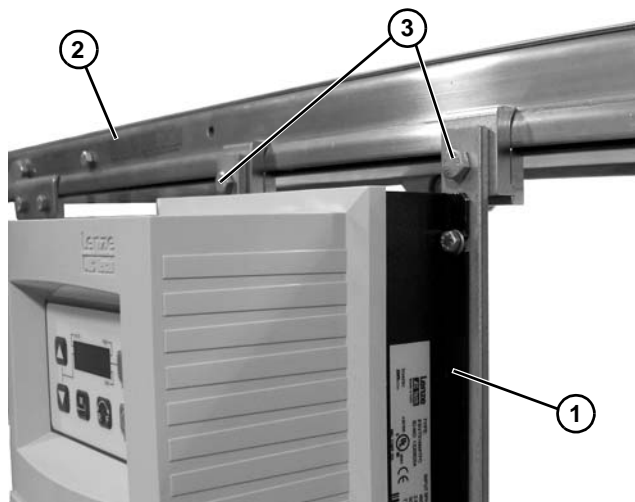

Figure 5
- Attach controller (Figure 5, item 1) to conveyor (Figure 5, item 2) with screws (Figure 5, item 3).